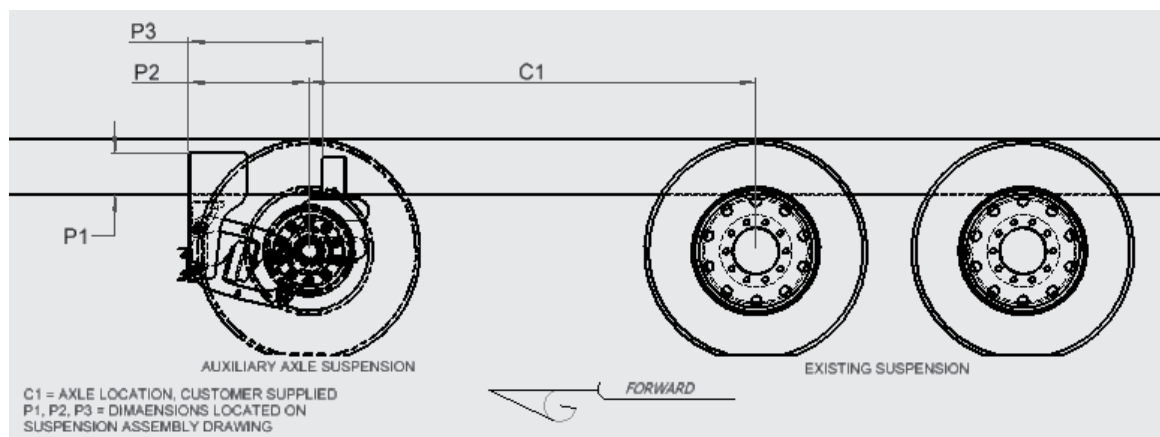

Figure 5. Suspension Mounting Position
4. Determine the location of the auxiliary axle mounting position on the outside of the vehicle frame rails. Refer to the suspension assembly drawing and mark the front edge of the auxiliary suspension side rails on the vehicle frame. (See Figure 5)
- Before any modifications to the hanger are made, contact Engineering at (800) 660-2843. Refer to the suspension assembly drawing to verify that vehicle cross members and backing plates are positioned correctly for the intended axle location. (See Figure 5)